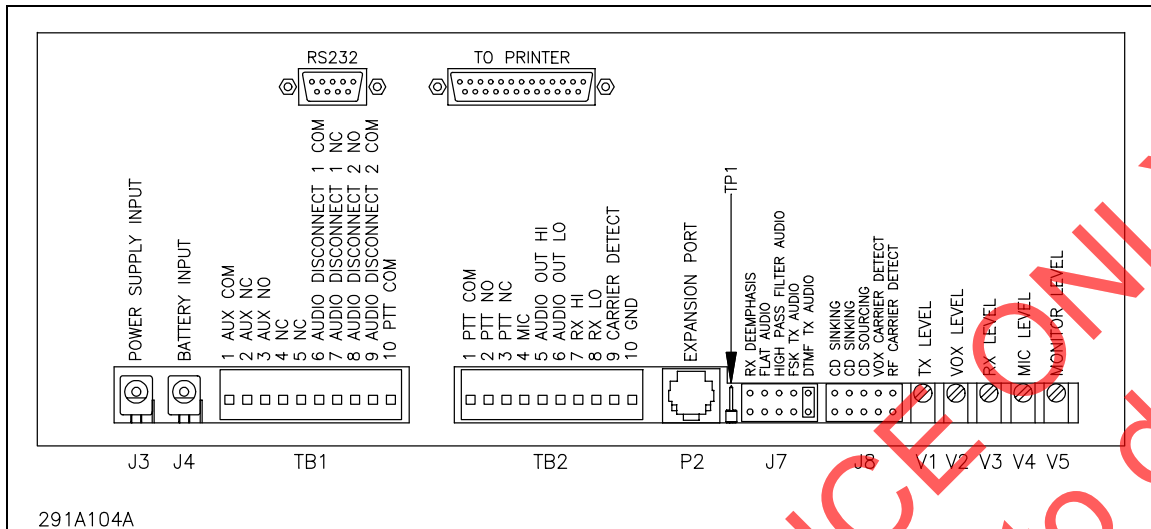

Fig. 5.5b
- Connect the meter or continuity tester leads to the relay contacts (Refer to chart below and to figure 5.5b).